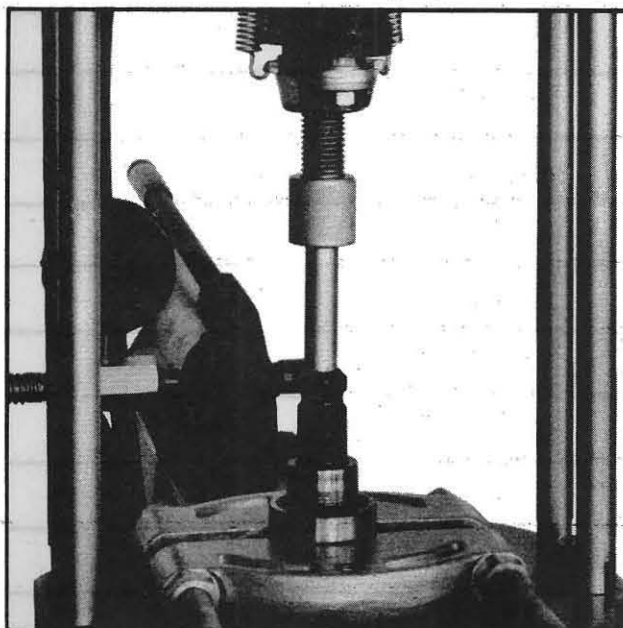

Fig. 283
3. Inspect the bearing and if it requires replacing, remove the snap ring from the end of the shaft and supporting the bearing in a bearing splitter, press the shaft out of the sleeve and bearing as shown in Fig.283. Place the flat side of the bearing splitter next to